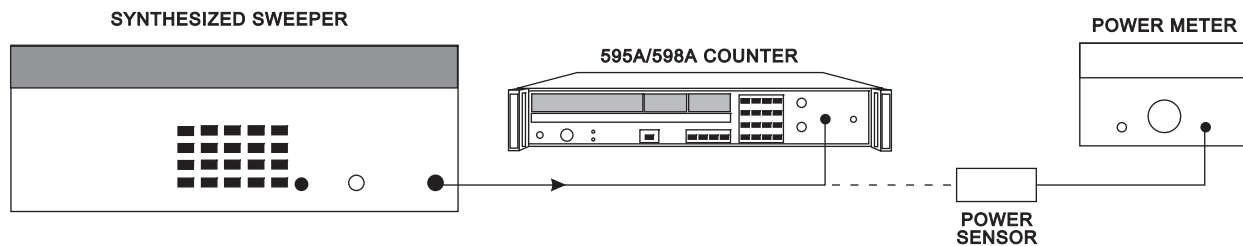

Figure 6-3. Band 0 Range and Sensitivity Test Setup 2 (100 MHz to 250 MHz)
- Connect the equipment as shown in Figure 6-3.